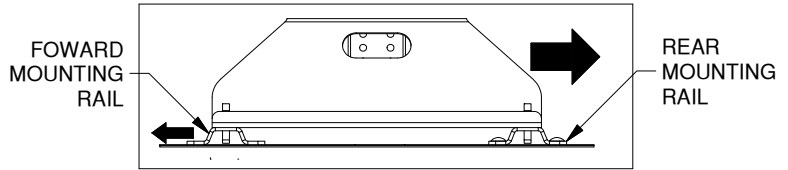

Figure E4: Side view of RV base and mounting rails.
- 3. IMPORTANT:** Before drilling forward mounting holes pull the RV base towards the rear of the truck and push the forward rail towards the cab of the truck to correctly space the mounting rails, see figure E4.